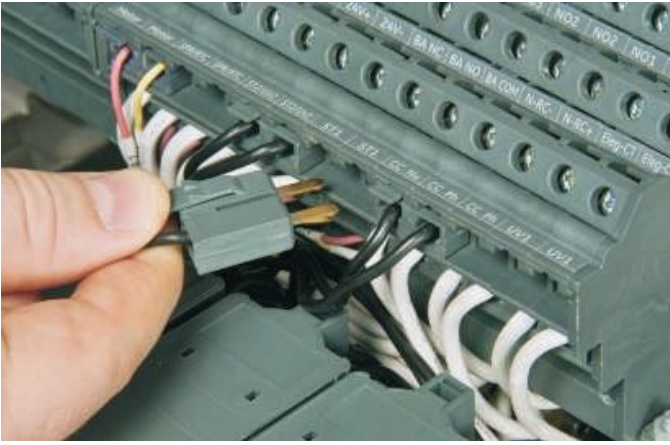

Figure 5. Close Coil Plug assembly
7. After installing the closing coil on the mechanism top plate, connect the input wire assembly plug to the A9- A10-A11 locations marked on the secondary disconnect as shown in Fig. 5.